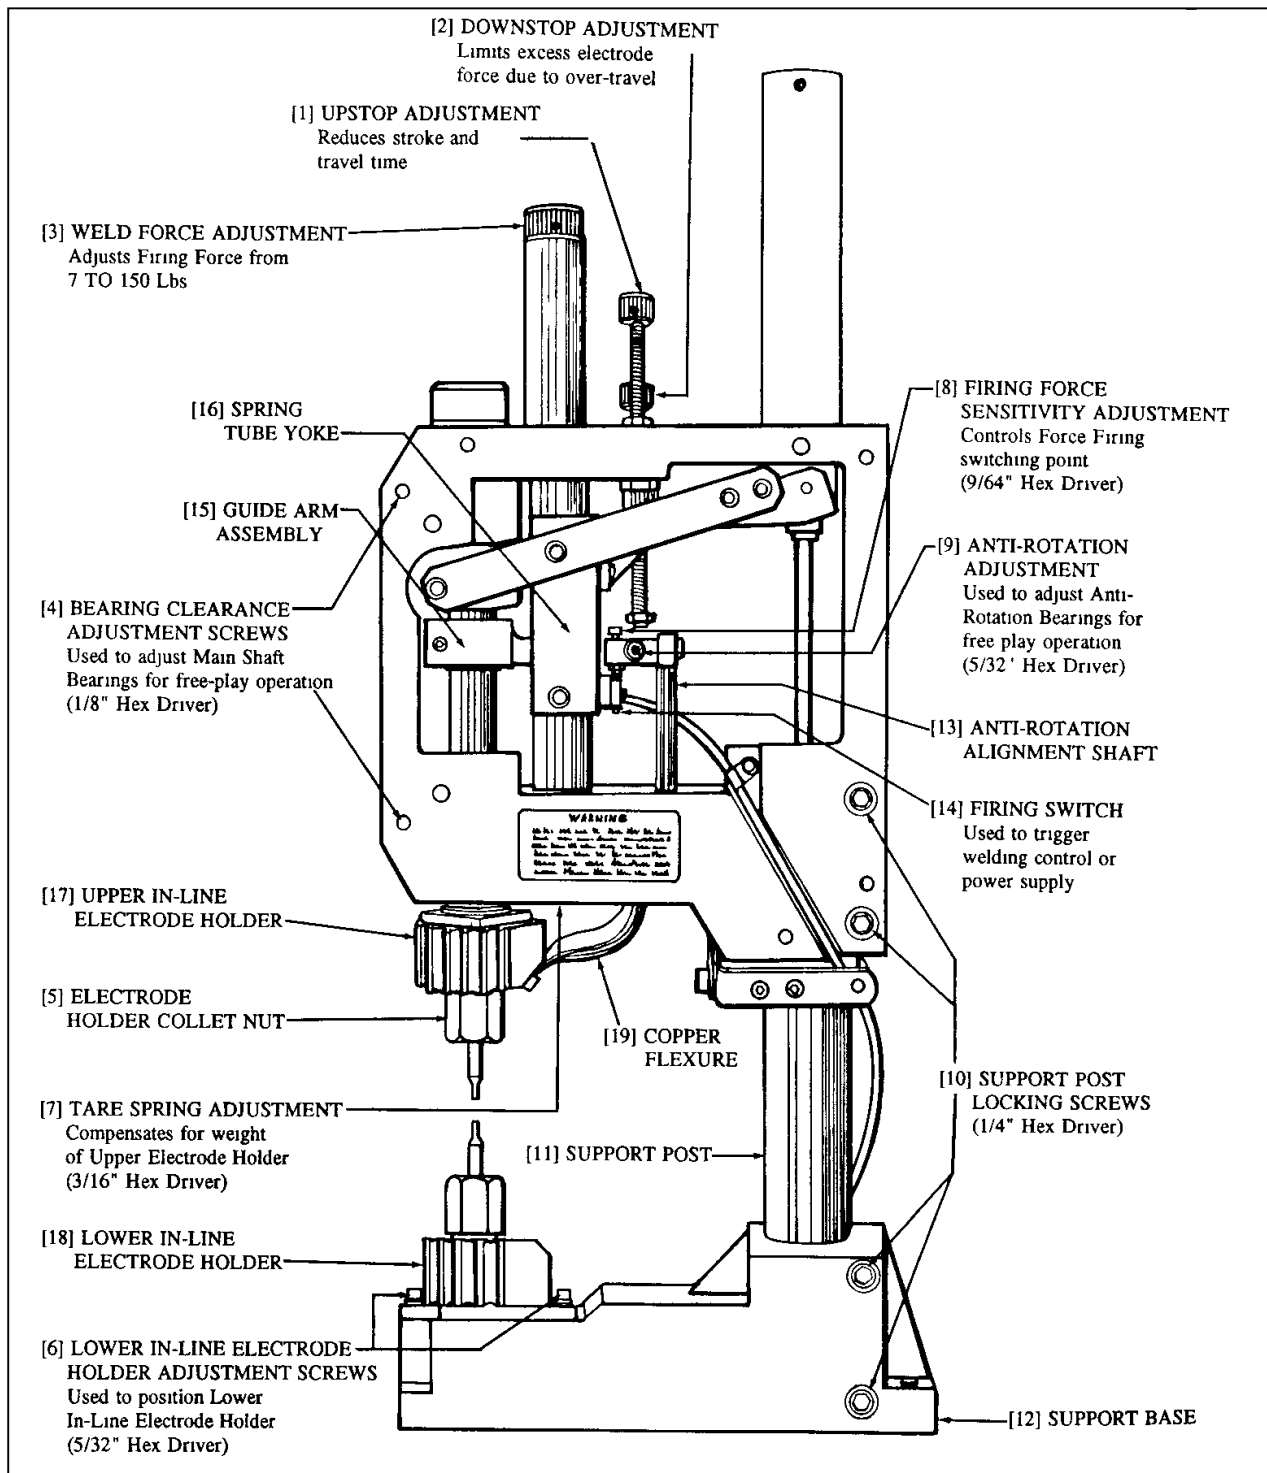

Figure 2-2. Series 90 Cutaway Illustrates Location and Size of Adjustment Screws
- 3 Reference Figure 2-2 for the following instructions.